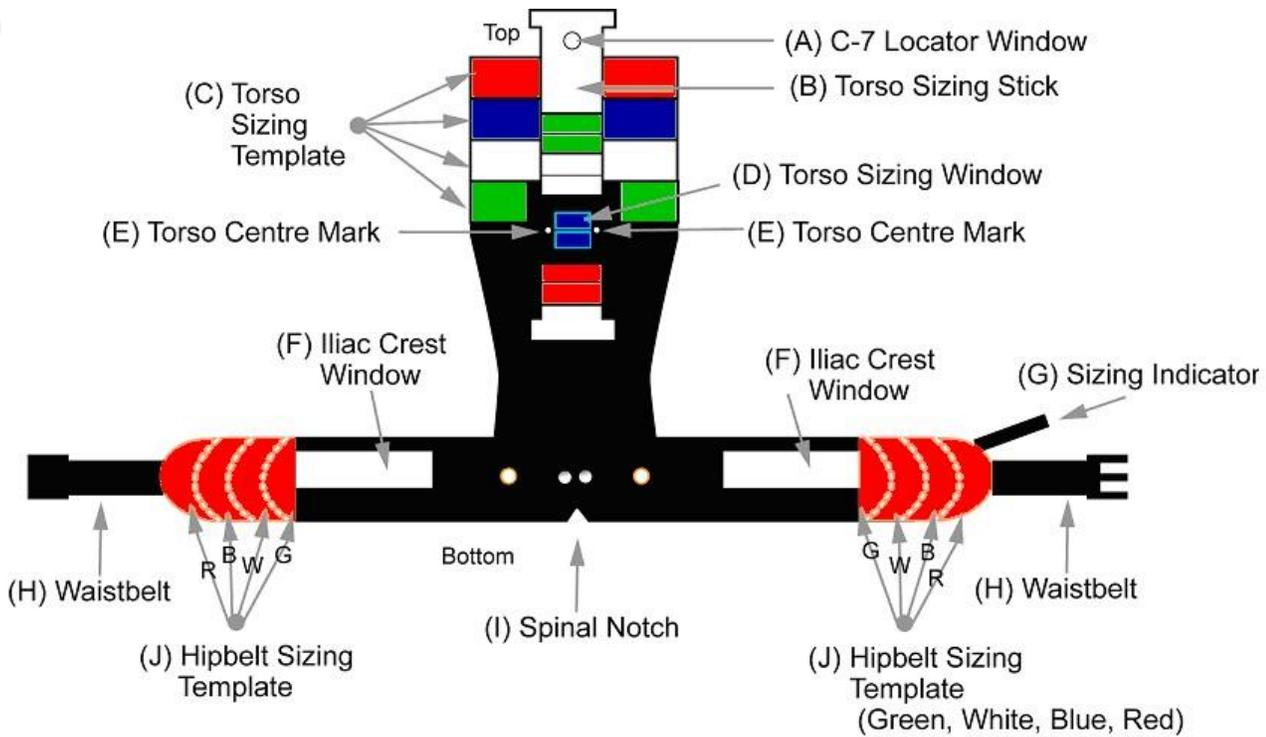
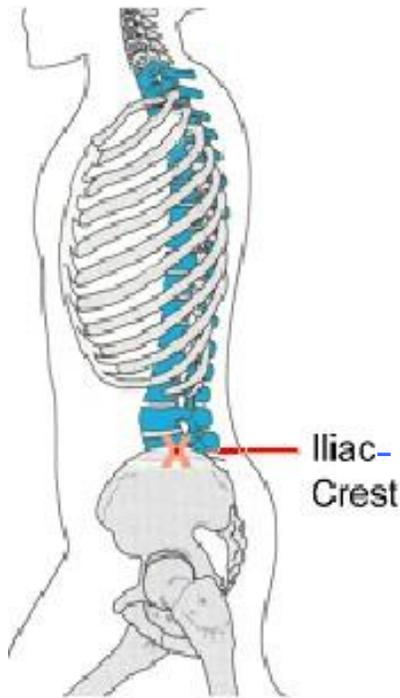

Figure 2 – Fitting Jig Layout
Figure 7 – Iliac Crest Location
4. Place Fitting Jig on individual's back using the Waistbelt, Figure 2-H.
5. Have the individual secure the Waist Belt, Figure 2- H, loosely.
6. Fold the Torso Sizing Template, Figure 2-C, toward the body (Red, Blue, White) so that only green is showing Figure 6.
6. Using a thumb or forefinger, have the individual locate the top of his/her iliac crest. Verify this location, Figures 7 and 8.
7. Using the Iliac Crest Windows, Figure 2-F, move the Jig up or down until the top of the iliac crest, Figures 7 and 8, is at the top edge of the Iliac Crest Window, Figure 2-F.
8. Ensure that the Hip Belt Sizing Template, Figure 2-J, is horizontal on the individual's body, Figure 9.
9. Have the individual tighten the Waist Belt, Figure 2-H.
10. Centre the Fitting Jig vertically on the spinal column using the C-7 Locator Window Figure 9 and 10 and the Spinal Notch, Figure 2-I.
- b) top of iliac crest touches top of Iliac Crest Window, Figures 7 and 8.